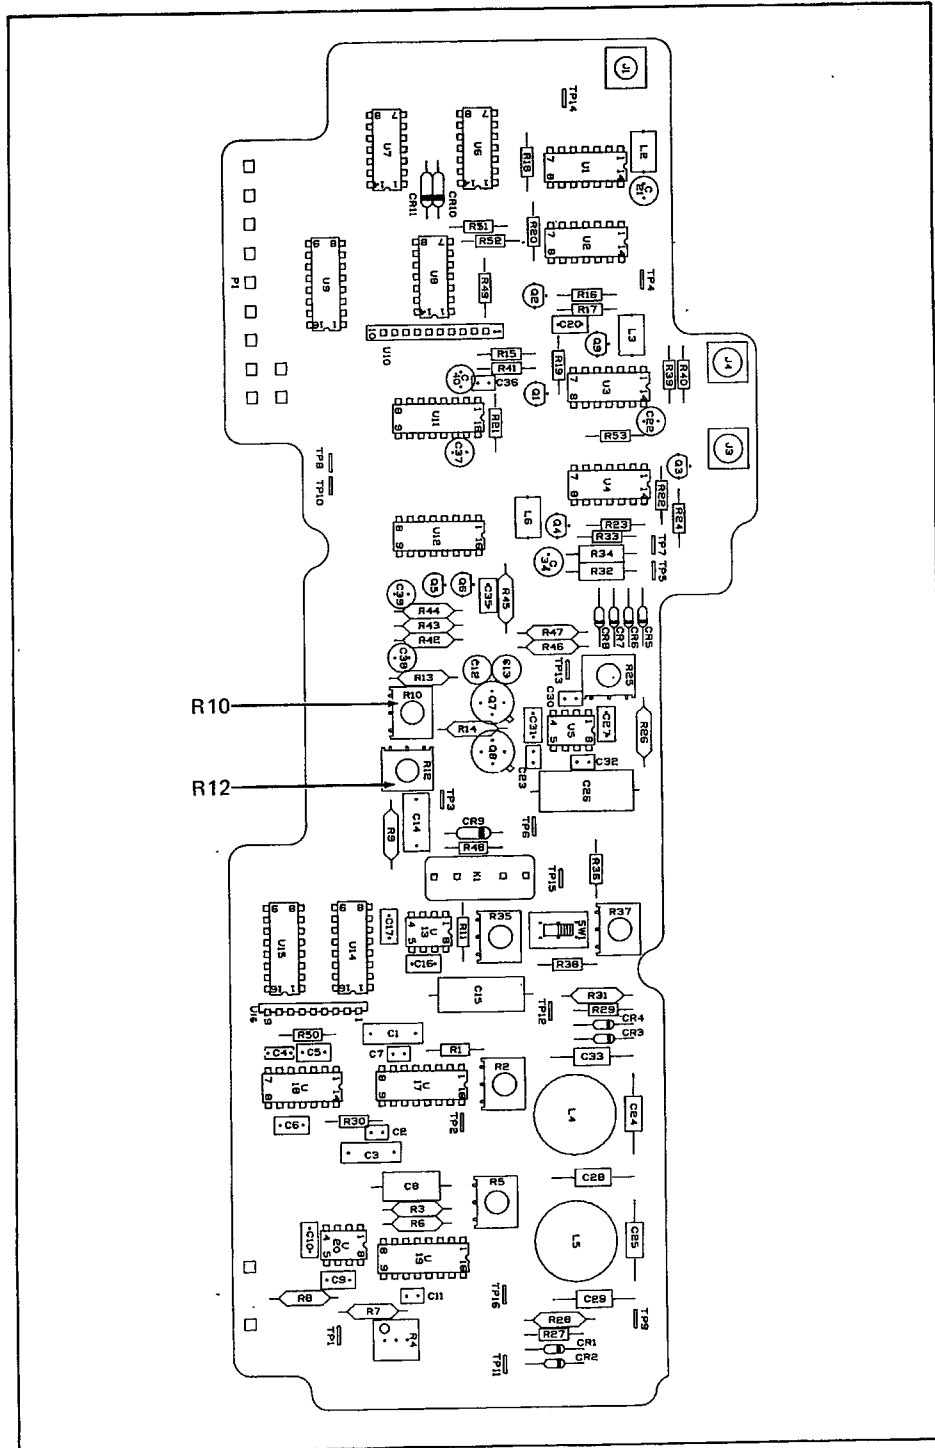

Figure 6-7. A3A1 Phase Detector PCB
10. Adjust R5 on the A3A1 Phase Detector PCB (Figure 6-7) for a Modulation Analyzer reading of 100.1 kHz.
15. Adjust R10 on the A3A1 Phase Detector PCB (Figure 6-7) for a Modulation Analyzer reading 100.1 kHz.
17. Adjust R12 on the A3A1 Phase Detector PCB (Figure 6-7) for a Modulation Analyzer reading of 4.0 kHz.